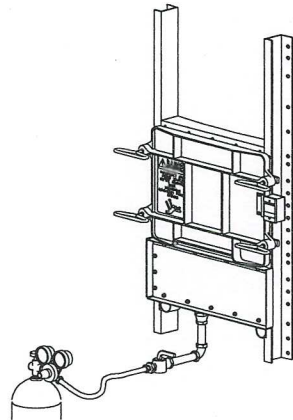

Fig. 1
- Connect the cylinder of nitrogen or carbon dioxide to the gas shutoff valve with the hose. See Fig. 1.